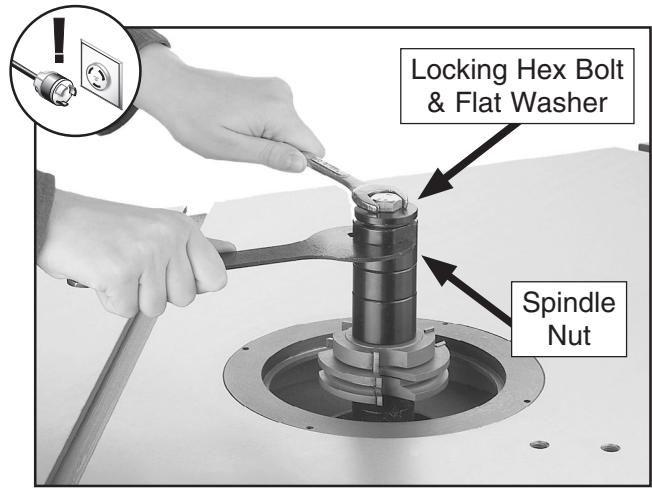

Figure 26. Removing the spindle nut.
4. Use the spindle wrench to keep the spindle nut from rotating as you unthread the locking hex bolt and flat washer from the spindle, as shown in **Figure 26**.